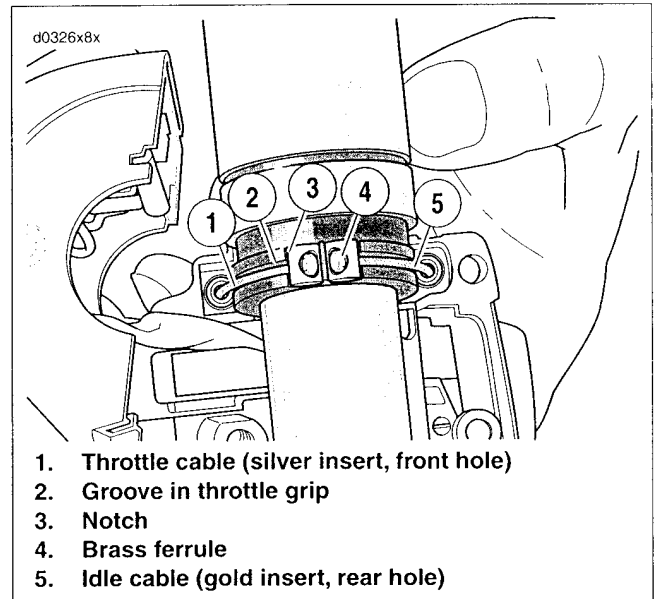

Figure 2-111. Throttle Cable Attachment
4. See Figure 2-111. Pull the cables from the housing by placing a drop of oil on the retaining ring that holds the cable in the housing, then firmly pull the bent tubing portion of the cable out of the housing using a rocking motion.
2. See Figure 2-111. Attach the control cable assemblies to the lower housing.